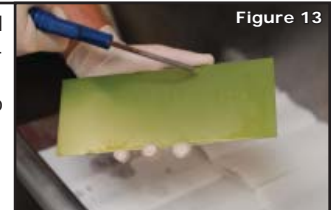

Figure 13
**13** If available, use a compressed air nozzle to blow off the excess water from the etched cliché **NOTE:** This step is optional see tech tip below for alternative. (Figure 13)